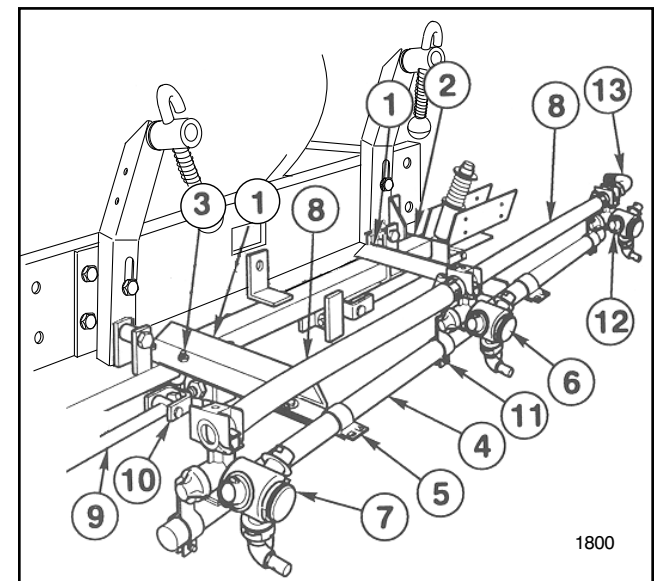

FIG. 2
5. Position the two (2) Center Boom angles on the Main Frame and secure them to the Main Frame Tube with two (2) square U-bolts, four (4) flat washers and hex nuts. (See FIG. 2)
6. Center and attach the Center Boom Pipe to the two (2) Center Boom Angle with two (2) clamps, two (2) 3/8" x 1" cap screws, flat washers and lock nuts. Once mounted the Center Boom Pipe should be approximately 20" from ground. Alternate mounting height for the Boom are provided in the Boom Mounting Brackets. These can be used as required.
7. Loosely attach the Double Barb Turret Body with the Turret Body Clamp in the approximate center of the Center Boom Pipe. For the most uniform spray coverage, position all Nozzles level as shown in FIG. 2.
9. Place two (2) Hose Clamps on two (2) 3/4" x 19" Jumper Hoses and connect the two (2) "end" Turret Bodies to the Double Barb Turret Body. Space nozzles 20" apart and tighten fasteners securely. Apply thread sealer and install 90° 3/4" Hose Barb on the Threaded Turret Body. (See FIG. 2)
10. Attach the two (2) Strut Assemblies to the two (2) adjustable clevis's found on each side of the Main Frame tube with 2 (2) 1/2" x 2" clevis pins and two (2) 1/8" x 1" cotter pins. (See FIG. 2)